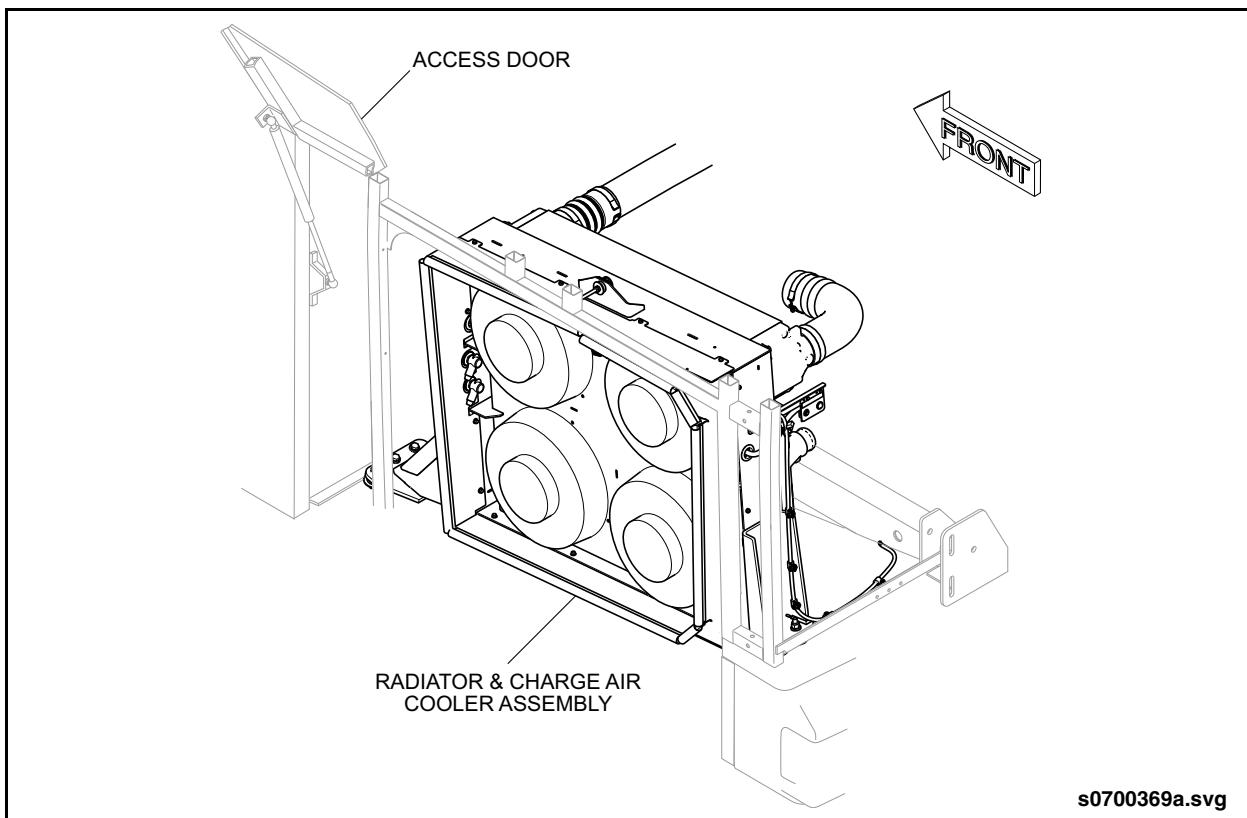

Fig. PM-3: Radiator Inspection
2. Check radiator and charge air cooling cores for leaks and for accumulation of dirt which obstructs air passage. As required, operate the fan reverse button on the engine gauges panel to assist in removing debris from the cores. Repair all cooling system leaks immediately. See “Fig. PM-3: Radiator Inspection” on page 24.